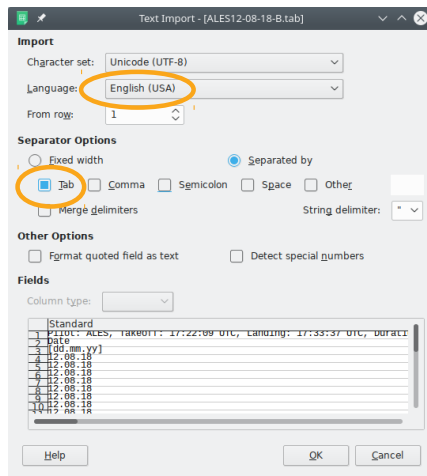

Figure 59: An example of Calc Text Import window.
5. Calc detects that a text file is being imported and it opens a window as shown in Figure 59. Please make sure that the *Tab* option is selected as the separator and *English (USA)* as the language. This makes sure that decimal values are properly imported.